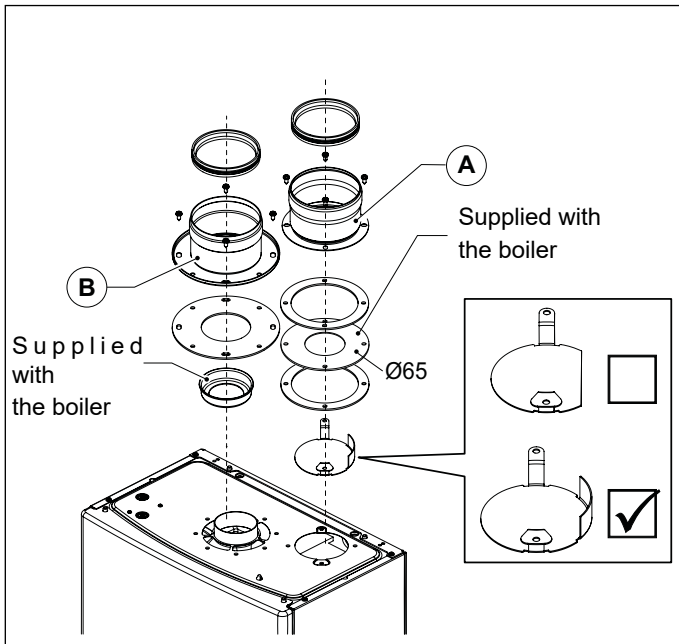

Fig. 10 0SDOPPIA13
- Install the specific air deflector (see Fig. 10 0SDOPPIA13).